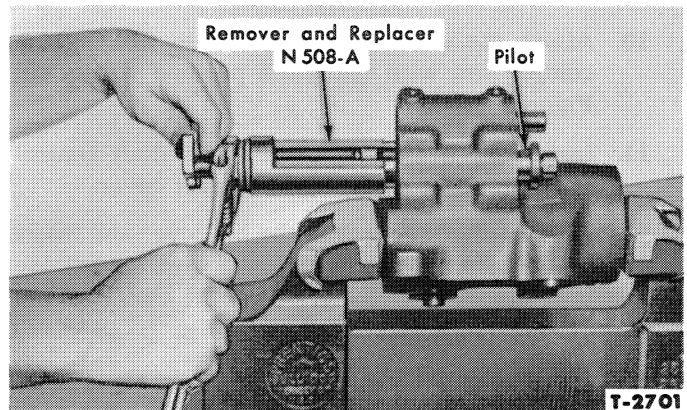

Figure 10—Removing Front and Rear Unloading Valve Bushing
4. Remove the front and rear unloading valve bushings with Remover and Replacer, N-508-A, Figure 10.